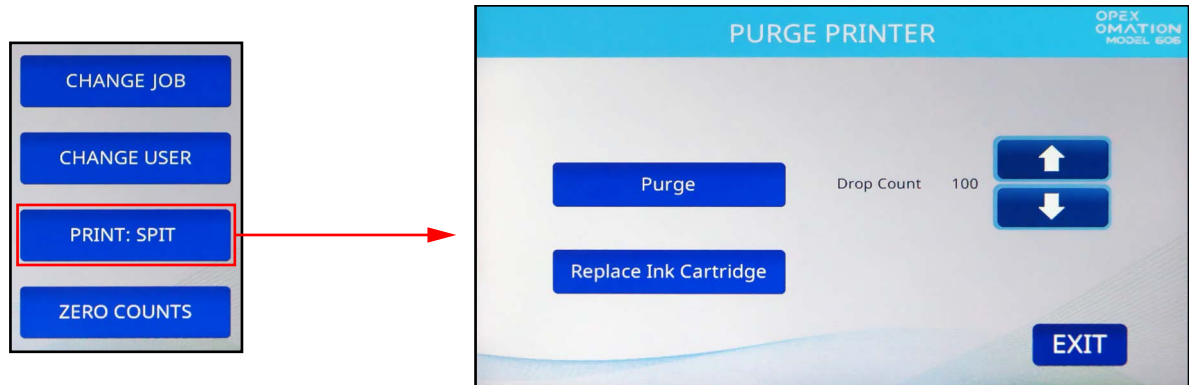

Figure 7-4: Main screen with PRINT = SPIT
2. Press the **Enter** key a few times until "**PRINT: SPIT**" appears with instructions, as in Figure 7-4.